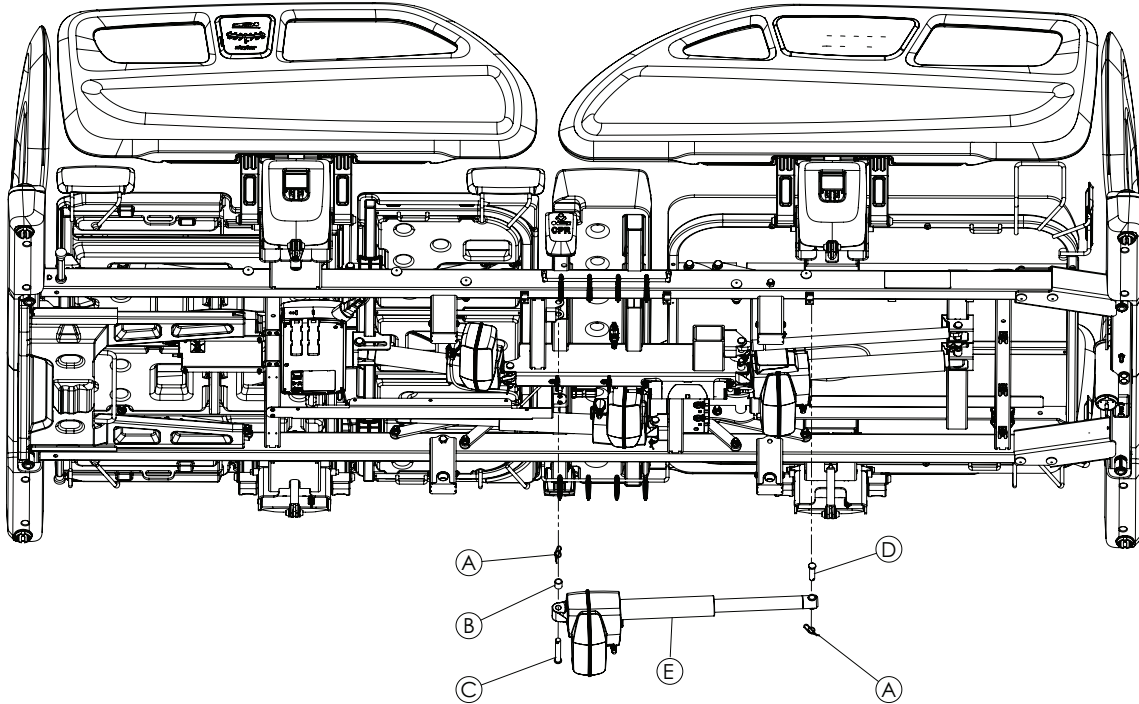

Figure 12 – Lift actuator, head end
6. Using needle nose pliers, remove the rue ring cotter pins (A) from each clevis pin. Discard the rue ring cotter pins (Figure 12).
7. Using one hand, support the head end lift actuator (E). Remove the head end clevis pin (D). Discard the head end clevis pin. Allow the head end lift actuator to pivot down.
8. Using one hand, support the head end lift actuator (E). Remove the foot end clevis pin (C) and spacer (B). Discard the foot end clevis pin and spacer.